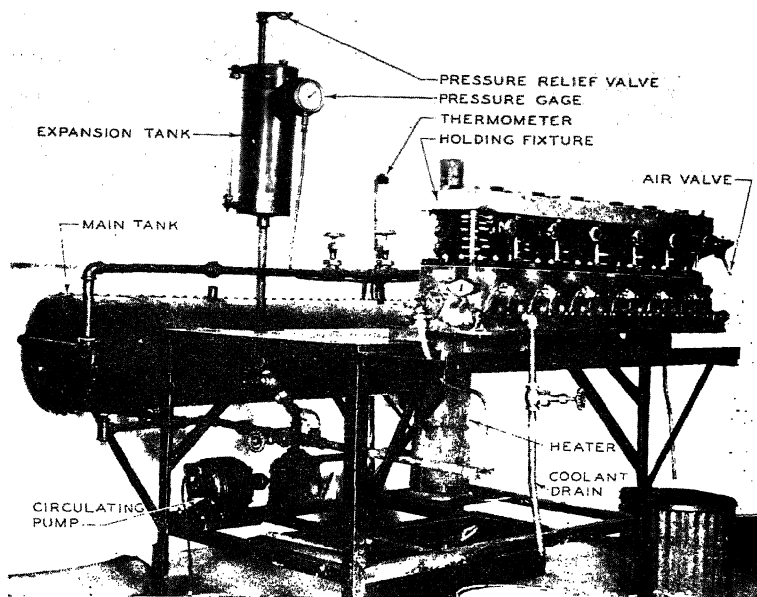

Fig. 13.—Test stand for checking leaks in the cooling system.
**Coolant Leaks.**—Leaks in the cooling system are checked on the stand, as in Fig. 13. Here the cylinder block is bolted down firmly. Connect the coolant heating system until the temperature reaches 250°F., then apply 40 lb. of air pressure. Inspect all points where leaks might possibly occur. Before removing the jacket, if this should be found necessary, measure the cylinder bore and examine it for surface damage. If the bore is more than 0.010 in. out of round, it should be replaced. Note the size to be compared with the replacement cylinder.